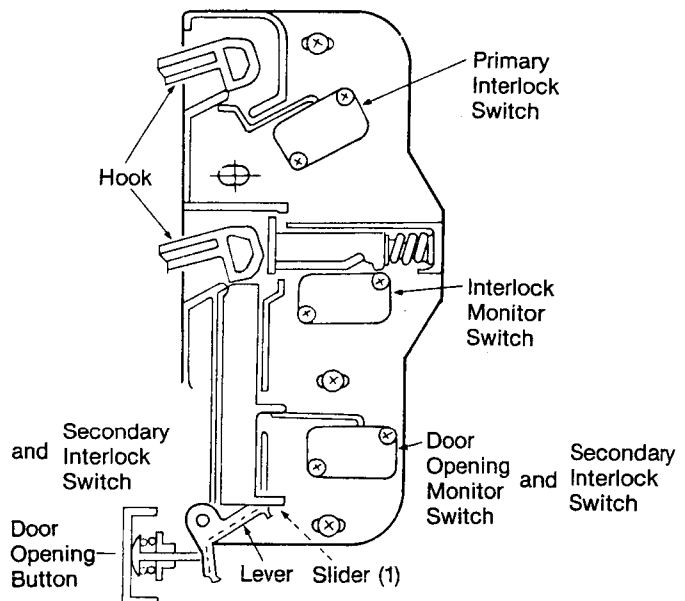

Fig. 10
Pushing the door-opening button to open the door mechanically moves the slider (1) upward which in turn, raises the hook, then the switch button pushes the levers upward and turns off the interlock switches (primary and secondary interlock switches), and then the interlock monitor switch is closed. (Refer to Fig. 10)